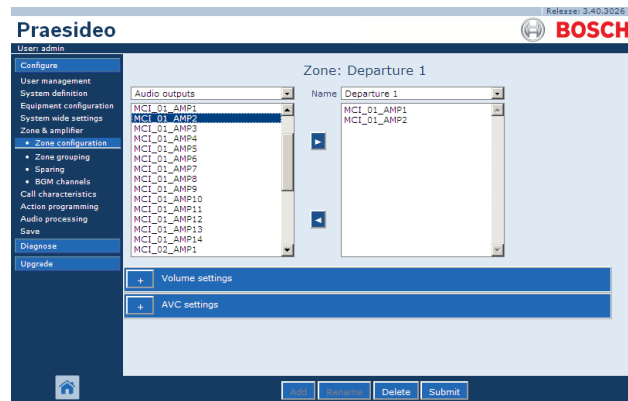

figure 45.3: Add zone, step 1
- 1 Go to *Configure > Zone & amplifier > Zone configuration*. A screen similar to the one in figure 45.3 appears in the main frame of the web interface.